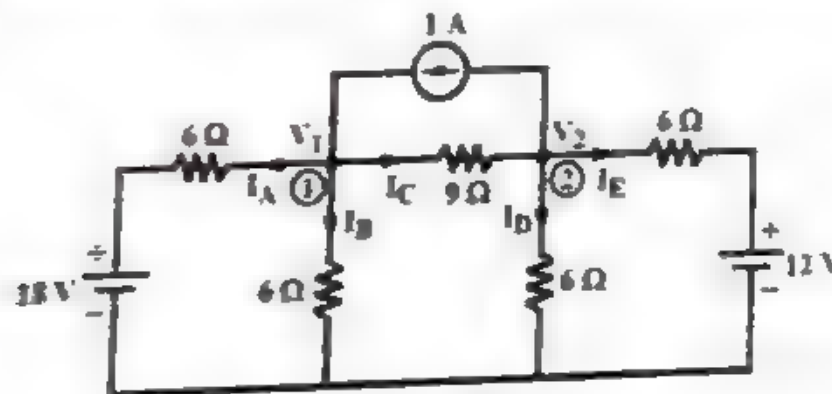

Fig. 1.64
Sol. Consider the voltages at nodes ① and ② be V_1 and V_2 . The given circuit is redrawn in fig. 1.64. Nodal equations at nodes ① and ② are as follows –